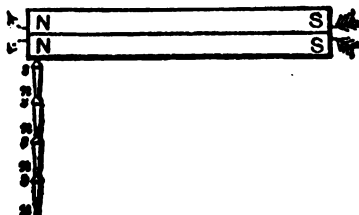

Fig. 85. Increased Magnetizing Effect of Like Poles.
(3) If, as in Fig. 85, the two magnets are held together, we have the same effect as if a stronger magnet were used.